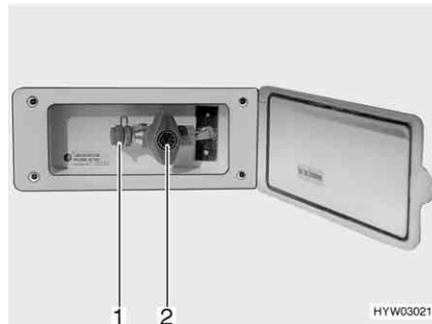

Fig. 132 External gas connection, gas isolator tap closed
The external gas connection (Fig. 132) is located at the rear or to the left or right of the vehicle depending on the model.
- Connect the external gas device to the connection point (Fig. 132,1).
- Open the gas isolator tap (Fig. 132,2).